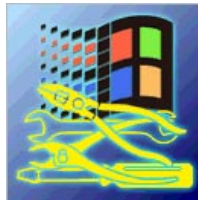

Figure 3-23
7. Choose the “**Windows Utilities**” icon from the Maintenance Menu. (Figure 3-23)